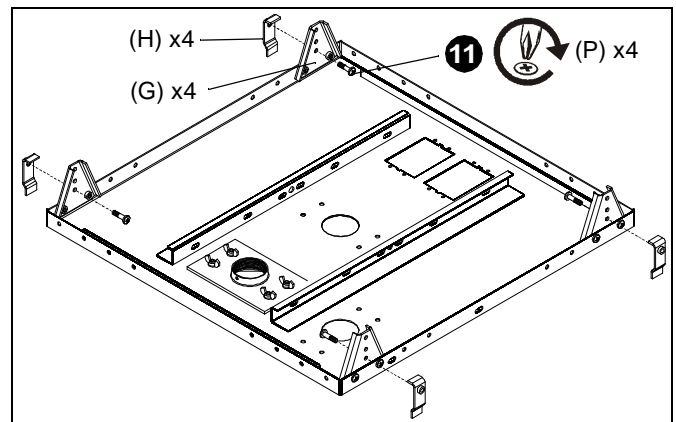

Figure 7
11. Loosely install ceiling framework clamps (H) to hanger brackets (G) with screws (P) (See Figure 7).
- FOR INSTALLATION ON TOP OF EXISTING TILE: Use *lower* hole on bracket (G).
- FOR REPLACEMENT OF EXISTING TILE: Use *middle* hole on bracket (G).